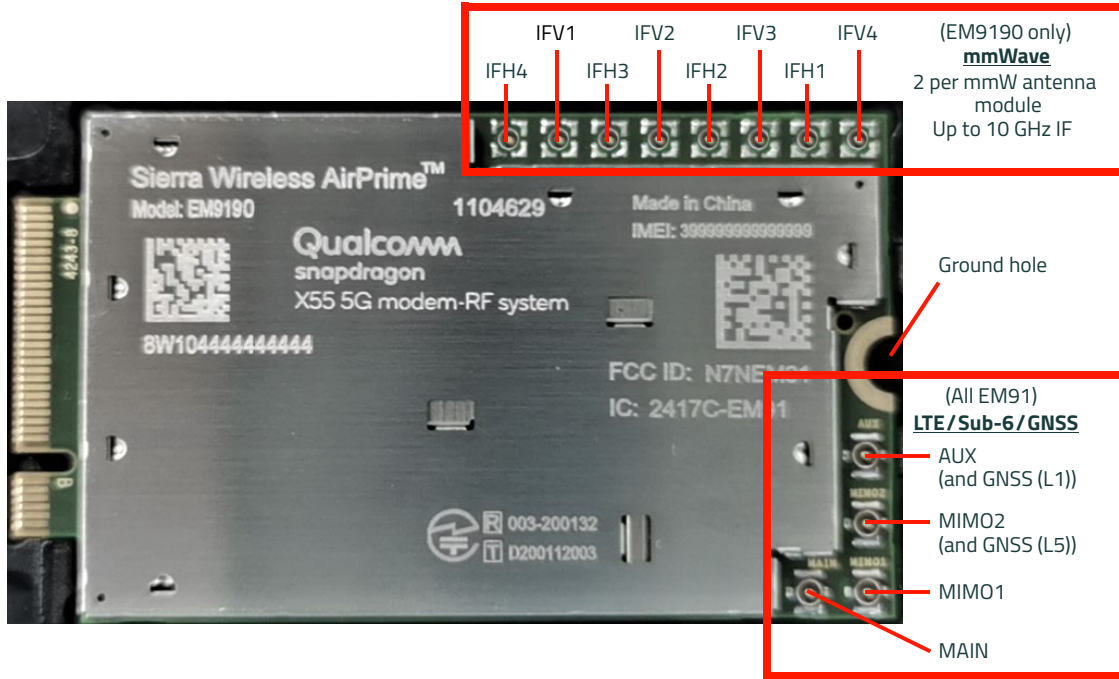

Figure 3-1: EM91 Module RF Receptacles (EM9190 shown)
- Connect the RF cable from the call box (e.g., the CMW500) to the module's MAIN receptacle — see Figure 3-1 on page 11. (Note — Do not turn on the RF transmitter yet.)